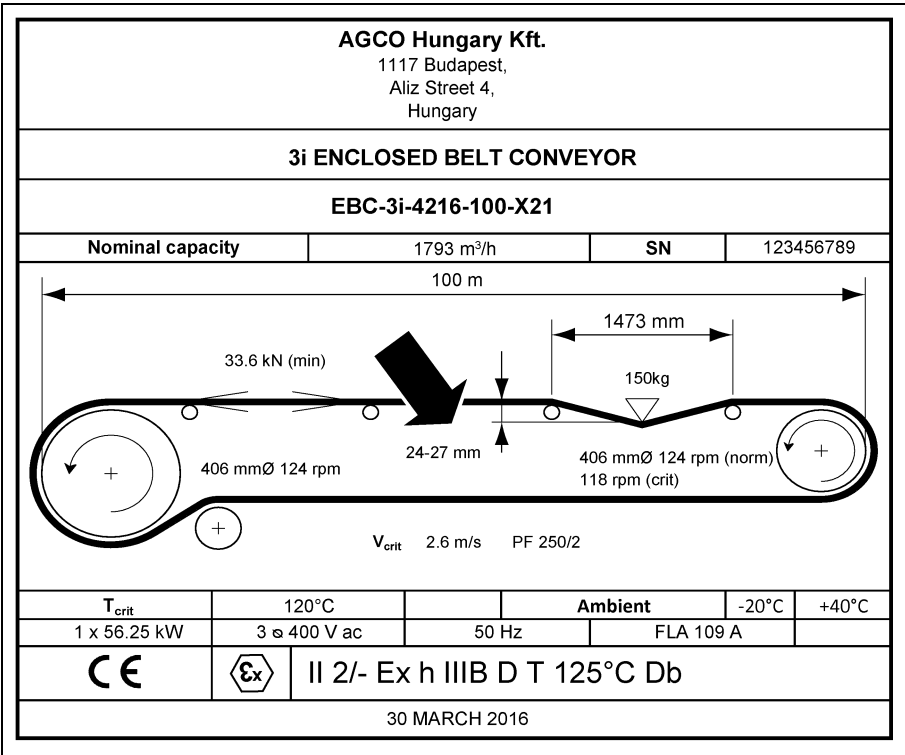

Figure 4V Rating Plate Showing Belt Deflection
- 7. The required minimum and maximum deflection is marked on the rating plate. *(See Figure 4V.)*